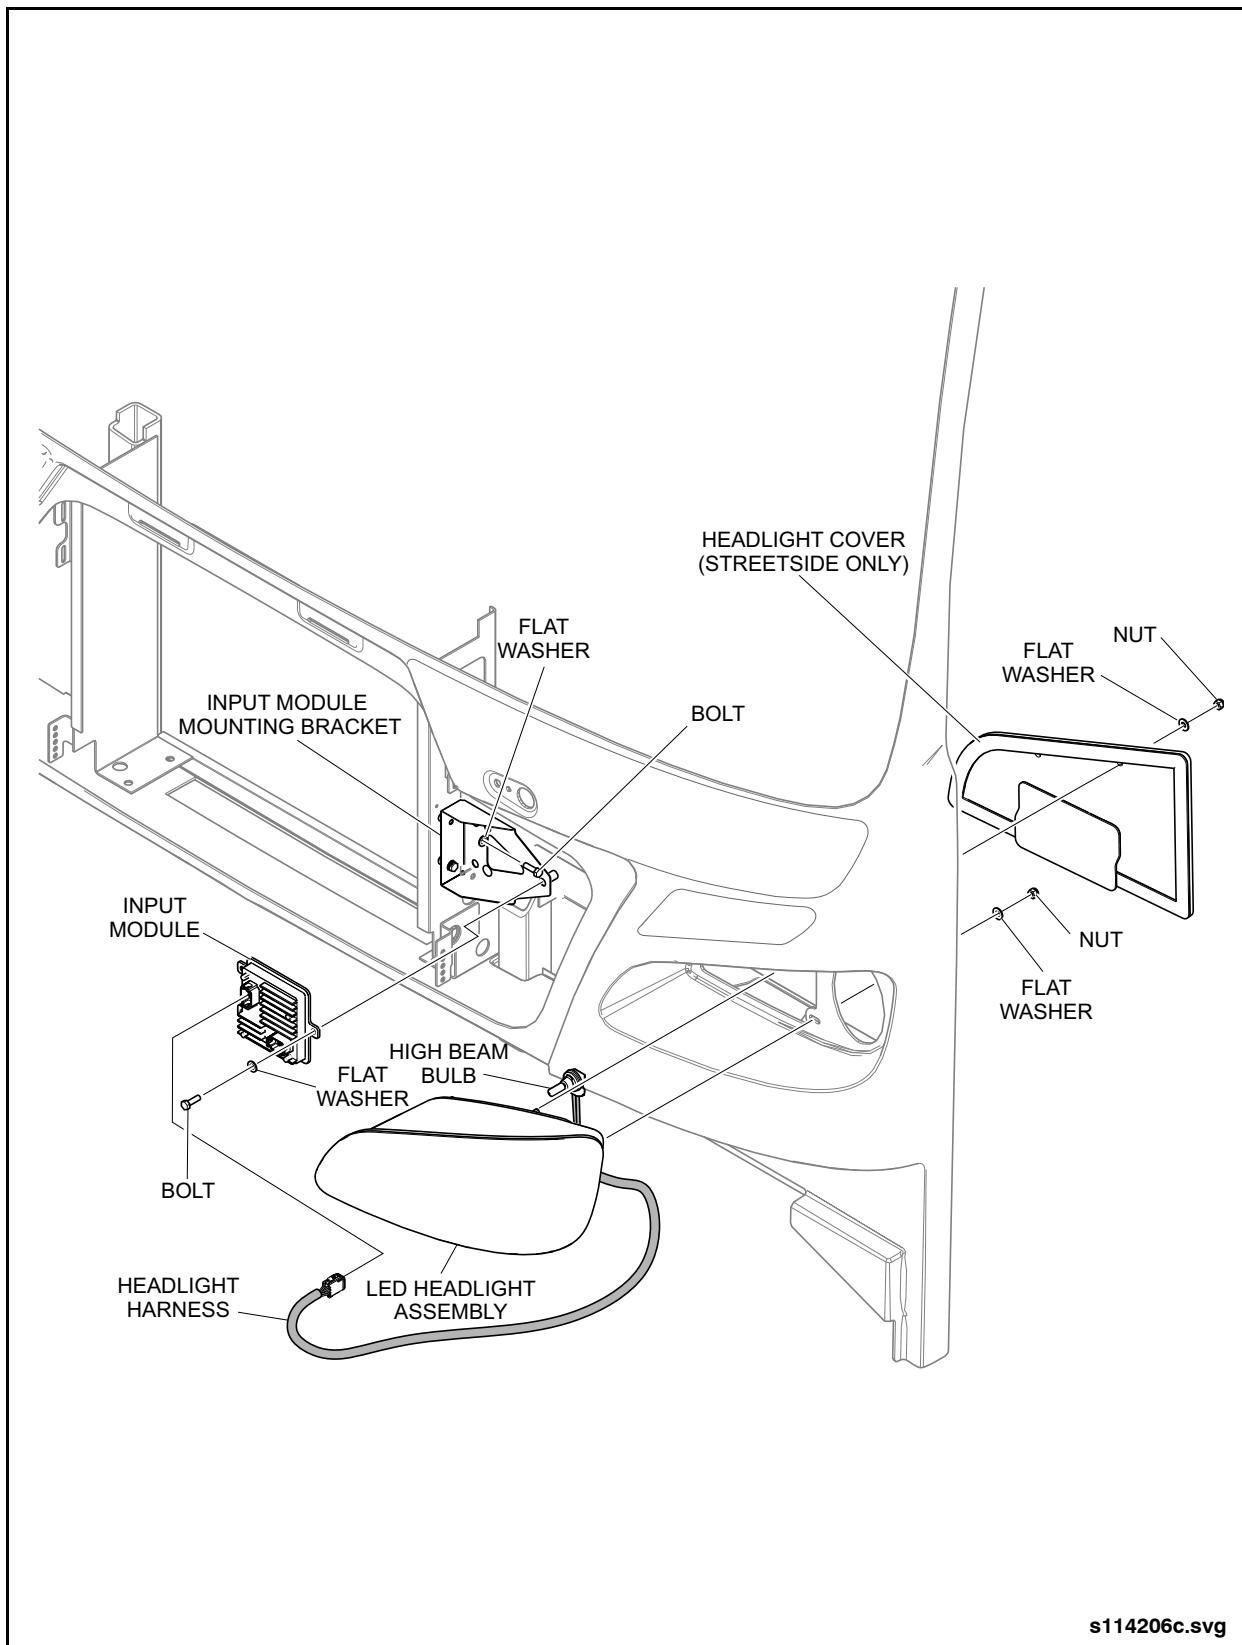

Fig. 9-13: Headlight Removal & Installation
2. Gain access to the headlight assemblies by opening the exterior wiper motor access doors, interior LH lower dash panel access door, and interior RH lower dash panel access door. See "Fig. 9-13: Headlight Removal & Installation" on page 30.